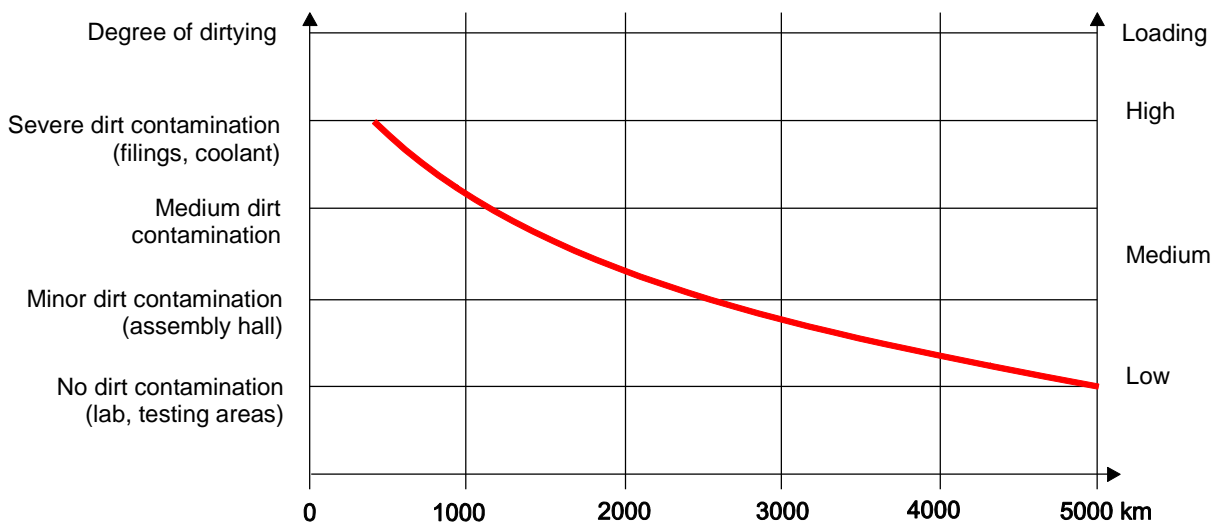

Figure 9: Relubrication intervals for the linear guidance system with recirculating linear ball bearings
** Or at least 2x per year. The lubrication interval depends on the ambient temperatures and on the loading (see figure 9). Relubrication "in motion"!
* Or at least 2 x per year. The lubrication interval depends on the ambient temperatures and on the loading (see figure 9). Relubrication "in motion"!